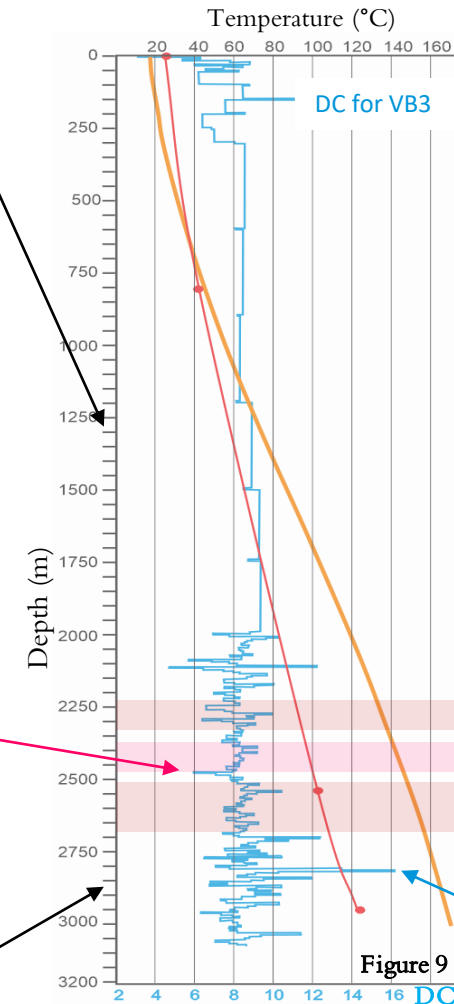

Figure 9
**Figure 9:** The orange line is Adrok's predicted temperature proxy based on pT1 model. The red line is the downhole tool temperature measurement (provided by Origin Energy). The light blue curve is the relative dielectric permittivity (presented here as DC relative to depth). High DC generally indicates the presence of water, low DC can be associated with oil such as found within the Wagina Shale.